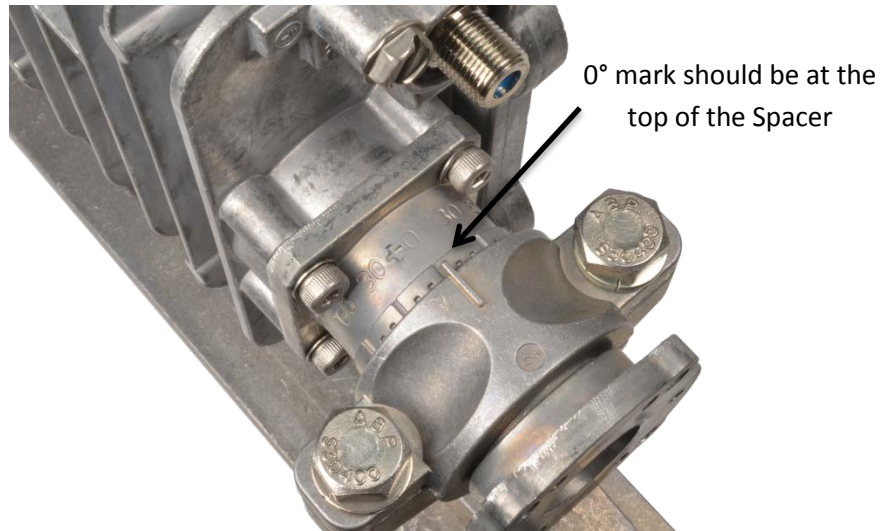

Figure 15: Universal radio in horizontal polarization with polarization scale
**Note:** The 0° degree mark on the waveguide spacer should still be at the top as shown in Figure 15.